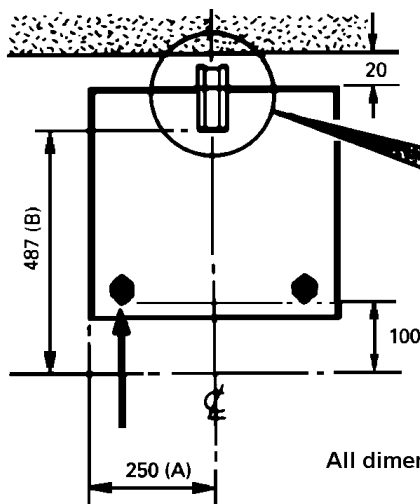
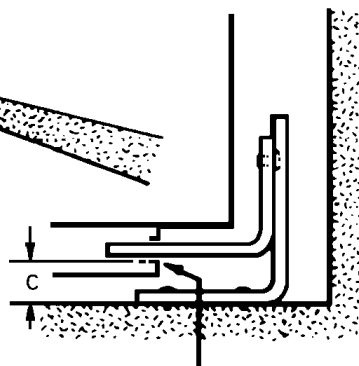

Fig.2a
Fig.2b
2. Mark off 250mm from the left hand side of the appliance as shown in (Dimension 'A'), Fig 2a. This is the centre line of the fixing bracket.
3. Draw a line 100mm from the front edge of the levelling feet (see Fig 2a) and remove appliance from its position. Mark off dimension 'B' (see Fig 2a) back from this line on the centre line of the bracket to locate the front edge of the lower bracket. Fix lower bracket (with two fixing holes) to the floor then measure the height from floor level to engagement edge on back of appliance, dimension 'C' of Fig. 2b.
Reposition appliance and check that top bracket engages into appliance back as shown in Fig. 2b.